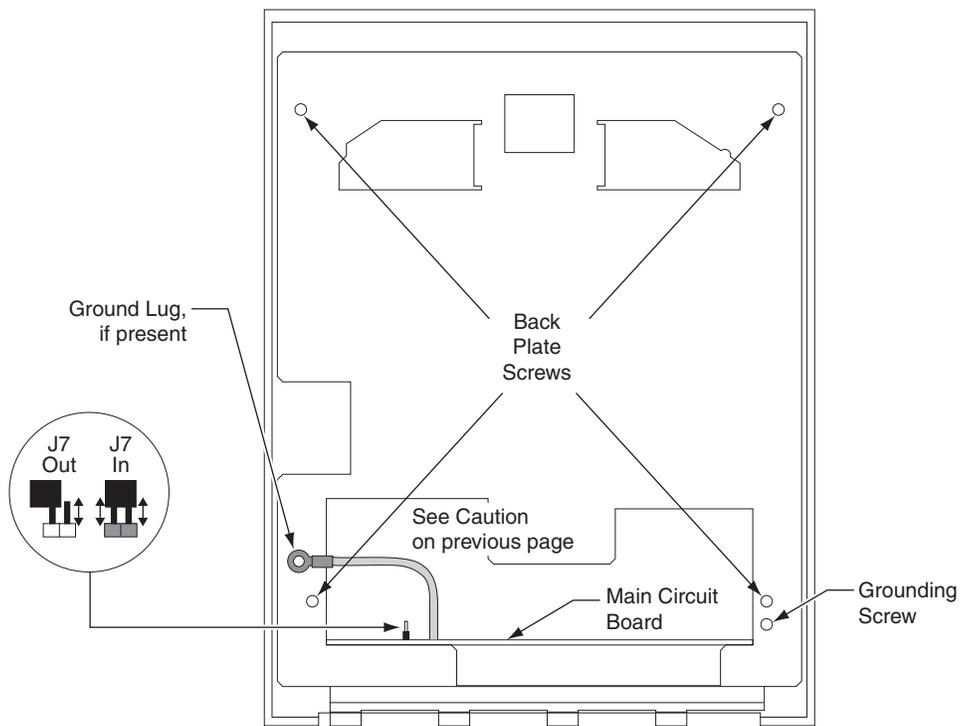

Figure 2
**▲ CAUTION:** If the unit is equipped with an optional battery backup, remove the J7 jumper before proceeding. Refer to figure 2 on the next page for location of J7.
5. Set the reader on a firm surface such as a table. Remove the four screws that secure the back plate to the HandReader. Remove the grounding screw and/or ground lug (if present). See figure 2 on next page.